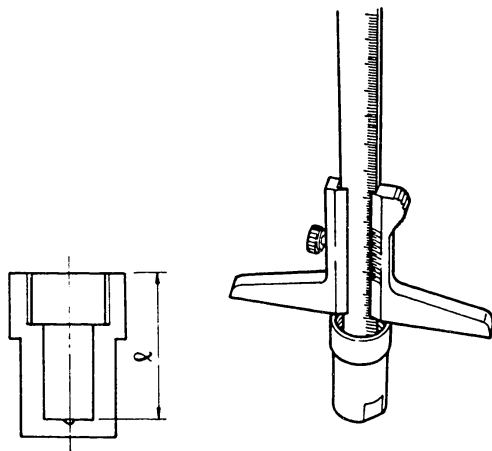

Fig. 186
3. Measure the depth "l" of the rack cap (65). (Fig. 186)